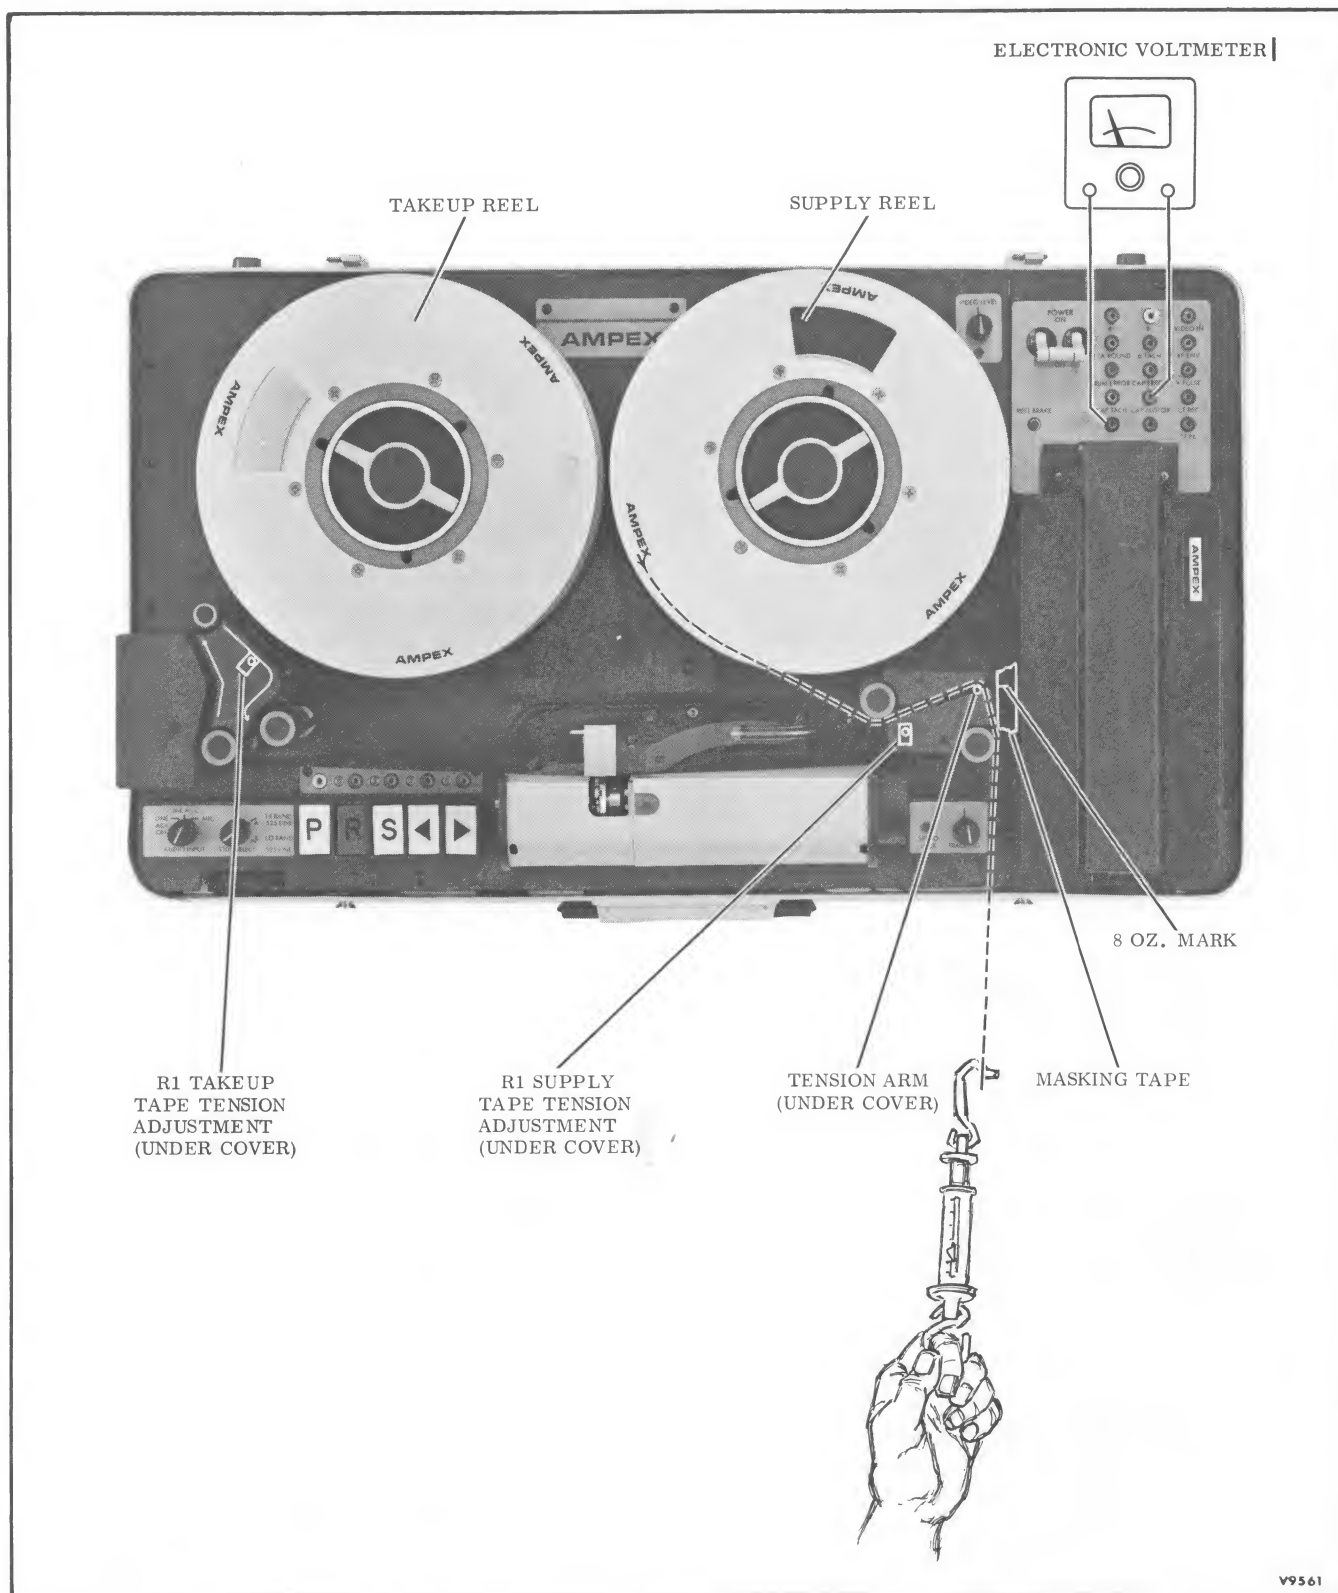

Figure 4-1. Tape Tension Indication and Adjustment Points
a. Install the video head, load a reel of tape on the supply reel, thread the tape in the path shown in Figure 4-1, then apply the mechanical reel brake.
c. Affix a piece of masking tape to the top plate under the supply compliance assembly arm as shown on Figure 4-1.
d. Pull on the scale to produce eight ounces of tape tension, then mark the masking tape with a pencil at the place where the compliance arm roller rests (see Figure 4-1).
a. Load a full reel of degaussed tape on the supply turntable as shown in Figure 4-1.